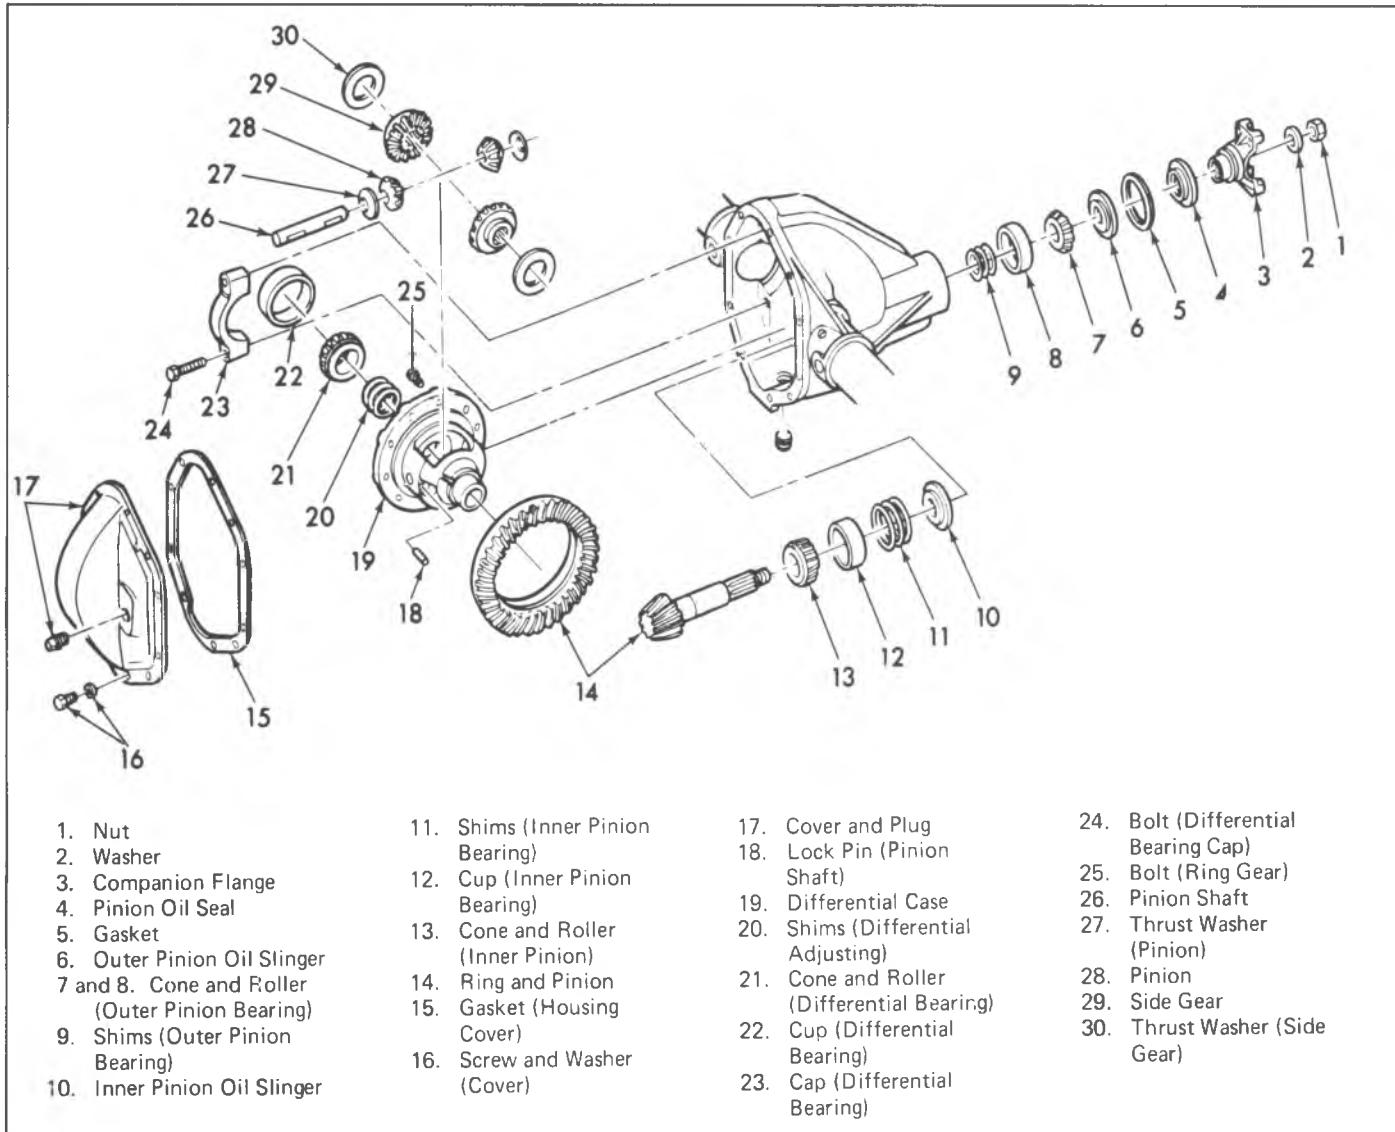

Fig. 14F—Dana Differential With 9-3/4" Ring Gear—Exploded View
1. The differential side bearing shims are located between the side bearing cone and roller assembly and the differential case. See figure 14F. These bearings are of the tapered roller design and are